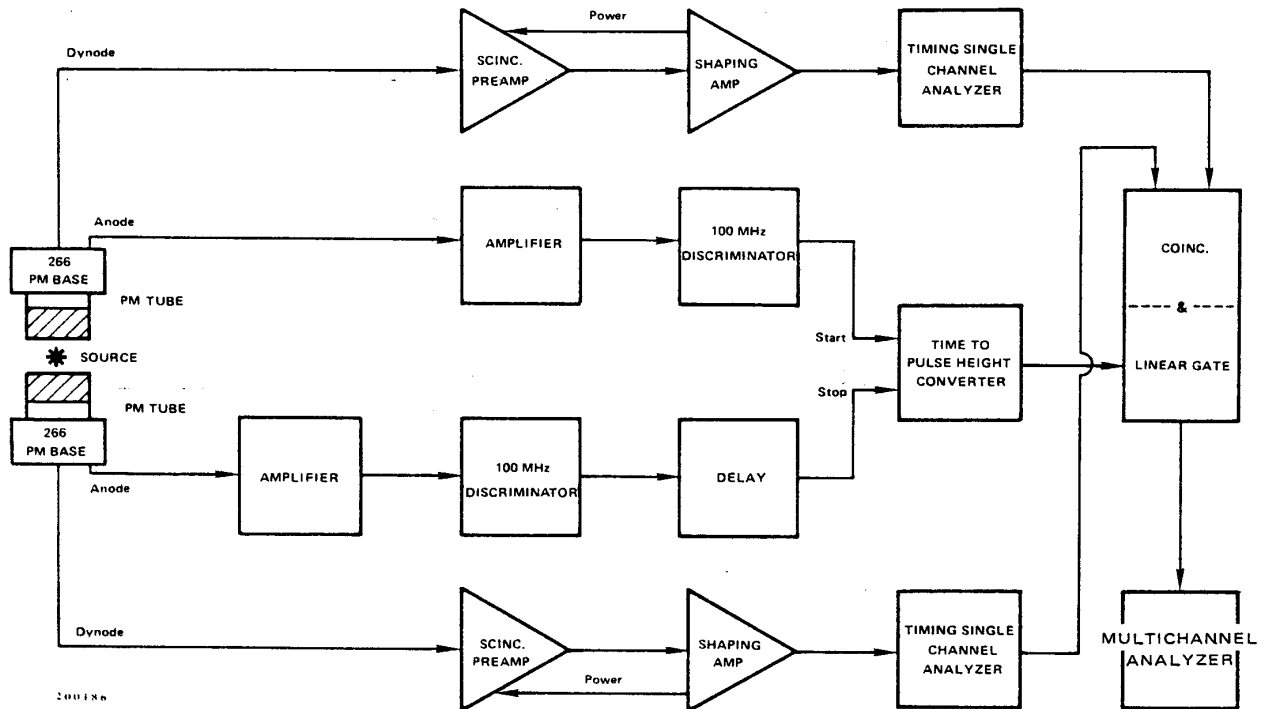
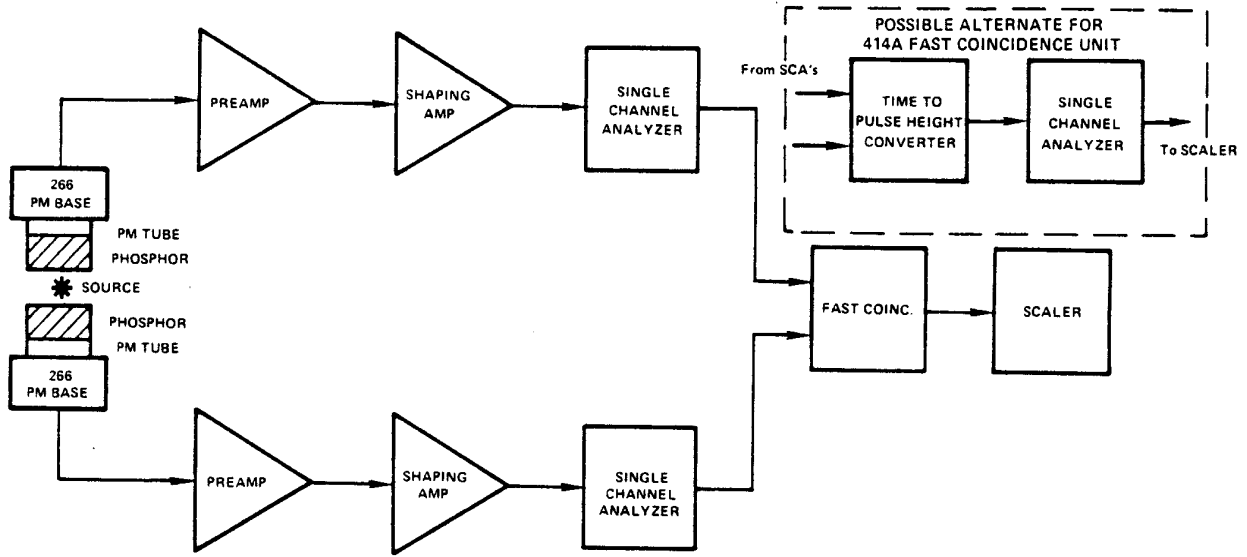

Fig. 4.1. Typical Fast-Slow Coincidence System Using Scintillators.
Fig. 4.2. Conventional Crossover Pickoff Coincidence System.
**Typical Fast-Slow Coincidence System Using NaI(Tl)** The block diagram of Fig. 4.1 outlines a fast-slow coincidence system. The words "fast-slow" mean that these are essentially two channels of information retrieval operating in parallel. The fast channel sets the ultimate resolving time of the coincidence circuitry, and the slow channel selects the pulse-height range to be accepted from each detector. By means of a slower coincidence requirement, the slow channel requirement is combined with the fast coincidence requirement to yield information having the criteria of the fast
As shown in Fig. 4.1, the time spectrum from the time to pulse height converter is analyzed as the information channel. Of course, the output of the time to pulse height converter could be fed to the single channel analyzer to form the ultimate in a
Figure 4.2 outlines a simple conventional crossover pick-off coincidence system. This is probably the easiest and most versatile method of doing coincidence where the resolving time desired is not the ultimate. This method is very easy to use; however, it results in a  $2\tau$  coincidence resolving time which is theoretically a factor of  $\sim 12$  worse than may be achieved by leading edge timing such as was indicated in Fig. 4.1.